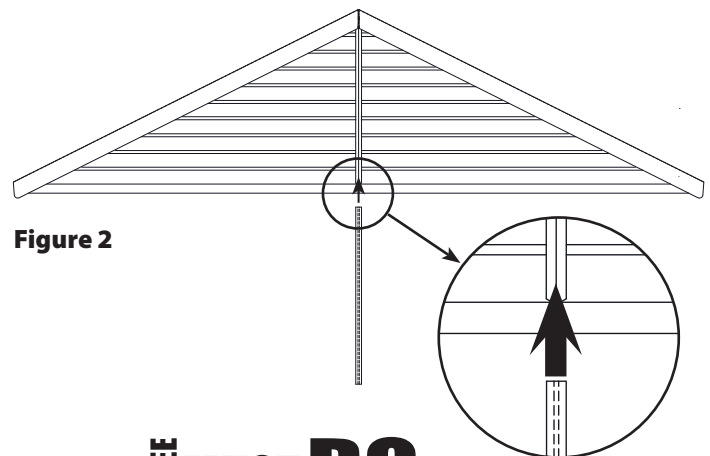

Figure 2
6. Slide the slip joint connector over the joint between the two vents as shown in **Figure 2**.